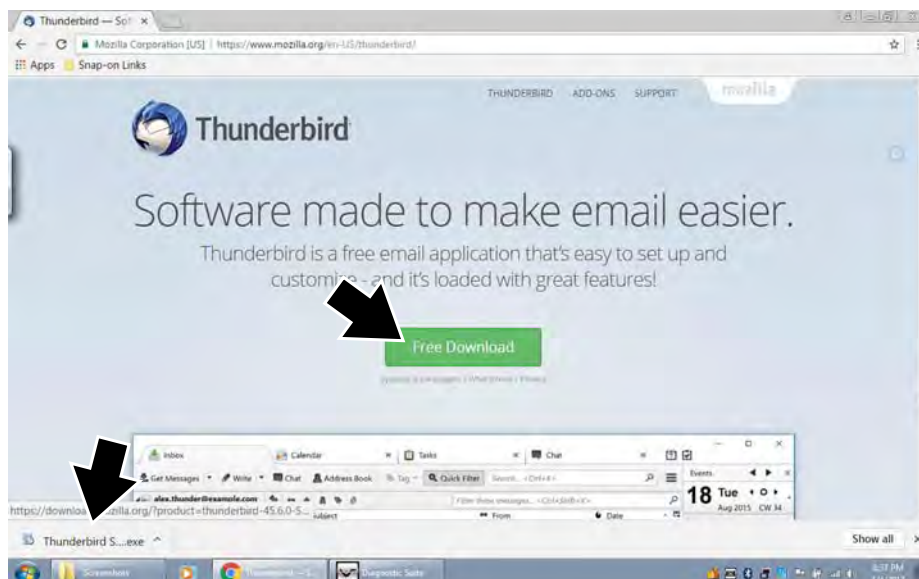

Figure 10-9
1. Download an email client (e.g. Mozilla Thunderbird) (Figure 10-9).